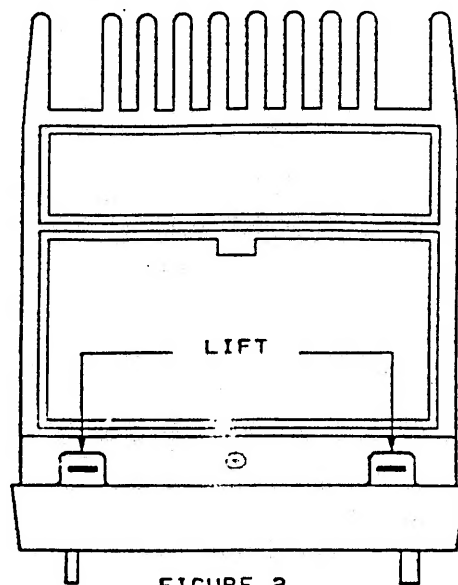

FIGURE 2
5. Gently lift the two tabs on the bottom of the front panel and then pull the front panel off the transceiver. **Figure 2**